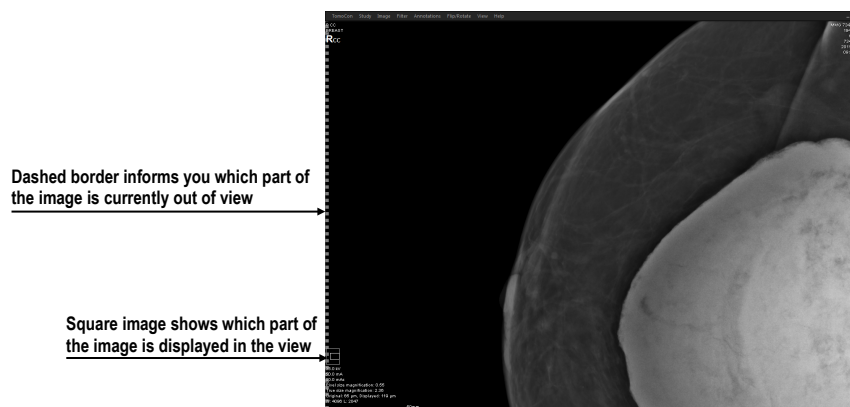

Figure 82 – Active checkered border
- The **Show checkered border when the entire image is not displayed** check box – if checked and the image in the mammography view is scaled in such a way that parts of the image is out of the view, the image is partially bordered with a dashed line to indicate which part of the image is displayed outside of the view (see Figure 82).